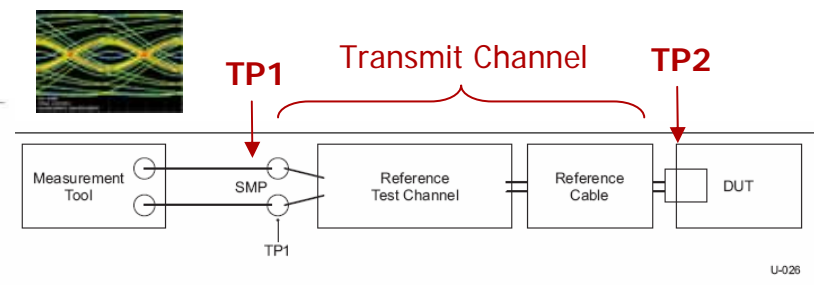

Figure 6-14. Tx Normative Setup with Reference Channel
3. Measured at end of reference channel and cables at TP1 figure 6-14